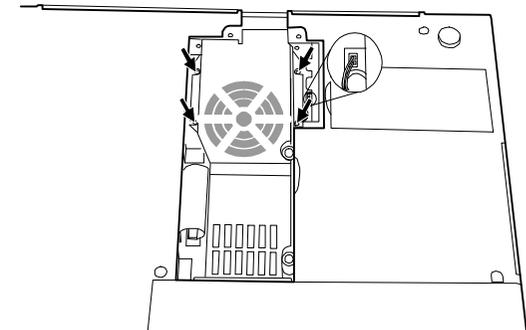

Figure 5-10. Removing the screws and the fan power cord
3. Remove four screws that fasten the fan assembly. Unplug the fan assembly's power cord from the system board. Then lift the fan assembly free from the housing. (Refer to Figure 5-10)